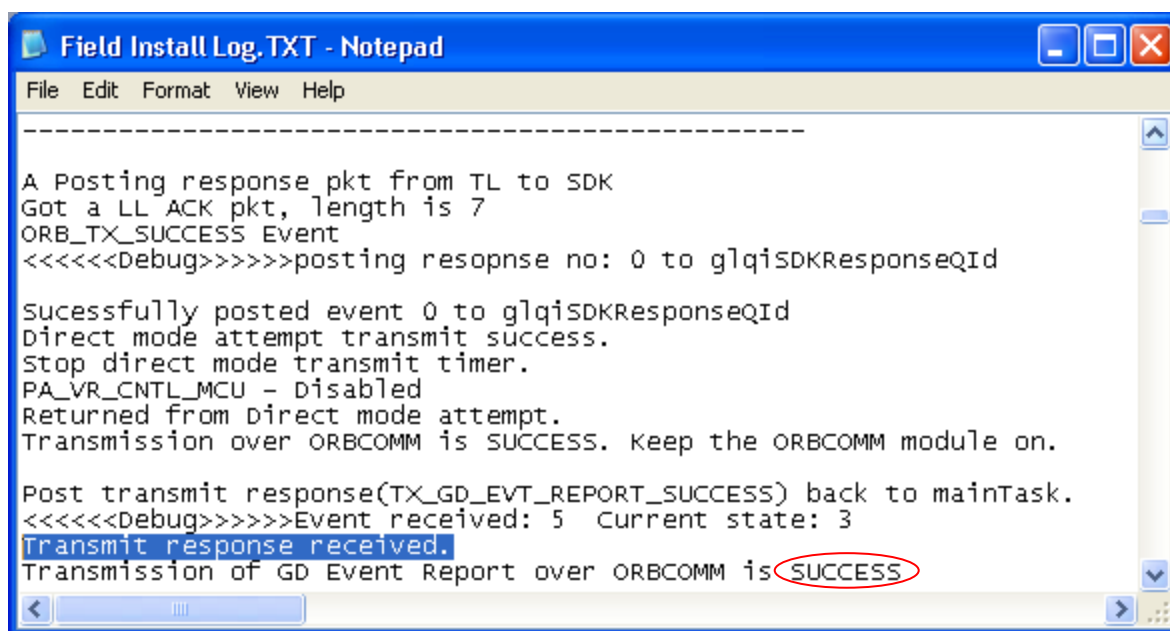

Figure 4.1
- 4.6 On the line below "Transmit response received." Look for a successful transmission response as indicated in Figure 4.1.